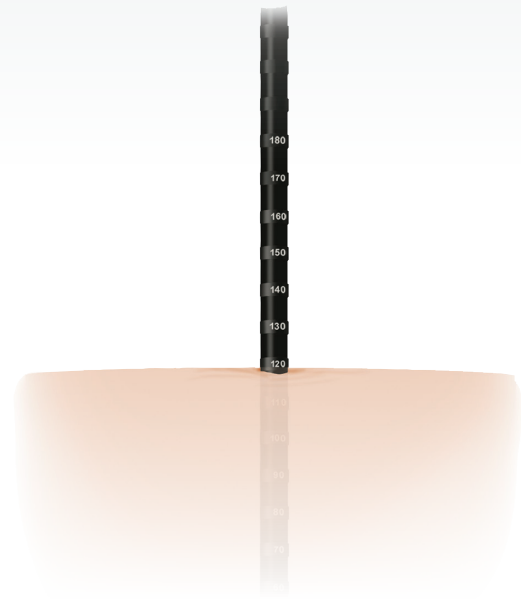

Figure 15
- With the initial dilator fully advanced to the ipsilateral annulus of the disc, the retractor blade length can be chosen by noting the depth marked on the initial dilator at the skin edge (**Figure 15**).